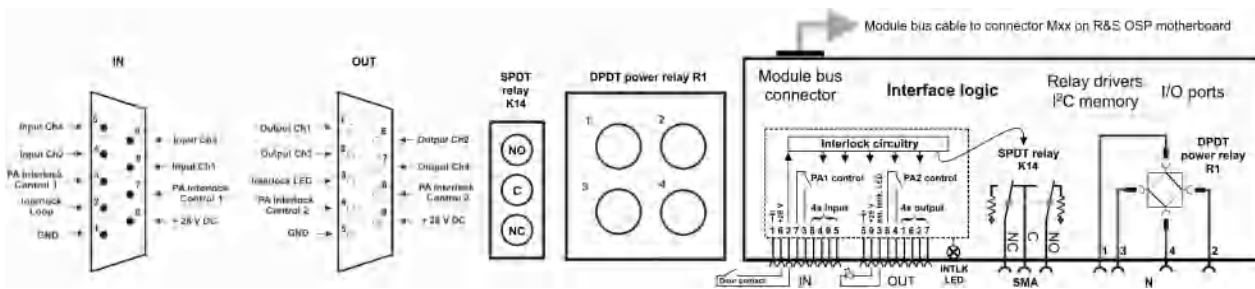

Figure 3-63: Pinout and block diagram of RF switch module R&S OSP-B114
The male D-Sub 9 connector labeled "IN" provides 4 input channels and 5 other lines, as shown in Figure 3-63:
The female D-Sub 9 connector labeled "OUT" provides 4 output channels and 5 other lines, as shown in Figure 3-63:
- Pin 3 of the output port ("Interlock LED" in Figure 3-63) is controlled by the module's interlock logic and activated together with the "INTLK LED". It is specified at a maximum of 100 mA. Hence, you can use pin 3 and pin 9 ("+28 V DC") of the output port to control a remote LED or a different indicator in a separate location, as in Figure 3-63. For example, this indicator can be on the front panel of a rack or in an office.
- If the LED shows red light, there is no connection between the input port's pins 2 ("Interlock Loop") and 6 (" +28 V DC") of the input port (see Figure 3-63). It indicates that the interlock is open.